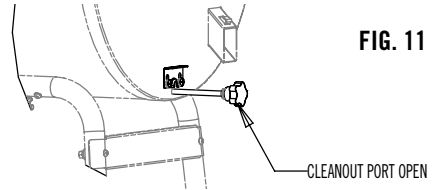

FIG. 11
2. Lift pullout lock and pull clean-out port knob to empty ash into ash cup. See Fig 11.